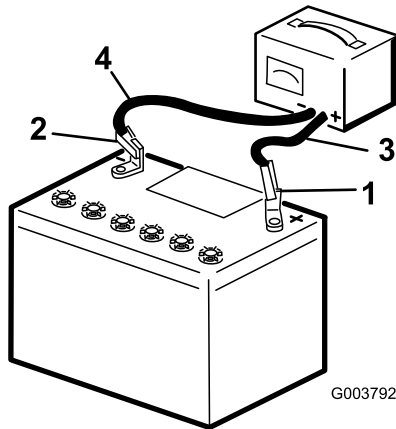

Figure 49
2. Charge the battery for 10 to 15 minutes at 25 to 30 A or 30 minutes at 4 to 6 A (Figure 49). Do not overcharge the battery.
3. When the battery is fully charged, unplug the charger from the electrical outlet, then disconnect the charger leads from the battery posts (Figure 49).